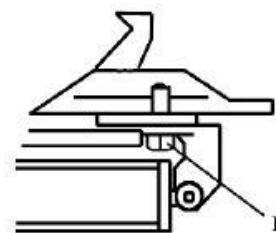

Fig 18
**Note:** After the first 20 days of use, retighten the jaws with tightening screws (B) on the Turntable (Fig 18)